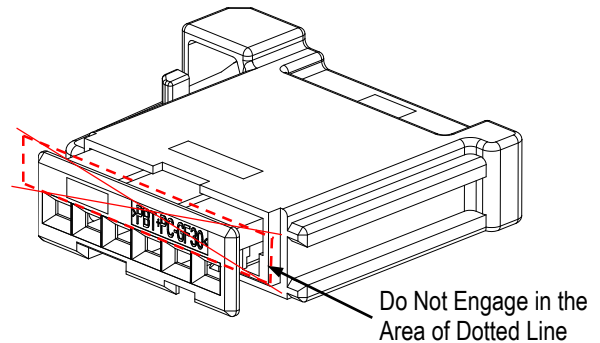

Figure 3
2. Do not engage TPA from the bottom side. See Figure 3.